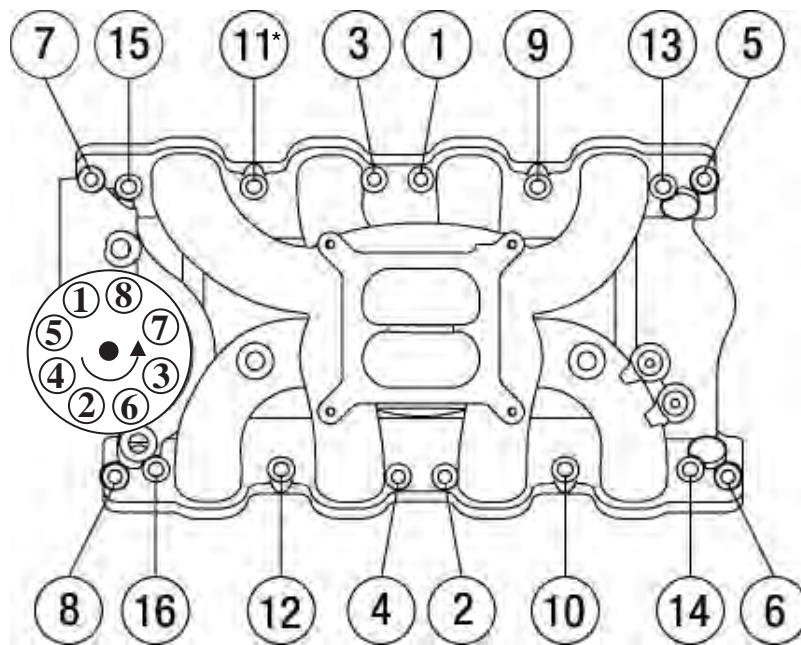

Figure 1 - 351C Ford Torque Sequence
- **MOUNTING HARDWARE:** These manifolds require a total of sixteen (16) intake manifold bolts to be properly secured. You will need eight (8) bolts that are 3/8"-16 and 1-3/4" long, and eight (8) bolts that are 5/16"-16 and 2" long. All sixteen (16) bolts will require chamfered hardened steel washers between the manifold and the head of the bolt. The longer bolts will thread through the vertical bosses, while the shorter bolts will mount perpendicular to the flange. See **Figure 1** for the proper torque sequence. **NOTE:** Manifold #7129 requires a shorter 3/8" bolt to clear the front passenger side runner. A 1-1/2" bolt is supplied with our #8529 manifold bolt kit. This bolt should be discarded if installing a #7183 manifold.
5. Install the intake manifold and hold-down bolts. The eight (8) 5/16" bolts will be installed in the vertical bosses (1-8 of the torque sequence) and should only be torqued to 10 ft/lbs at this time. The eight (8) 3/8" bolts will now be installed in the flange holes (9-16 of the torque sequence) and tightened to 15 ft/lbs. Now tighten the vertical 5/16" bolts to 20 ft/lbs in sequence, and then the 3/8" flange bolts to 30 ft/lbs, once again following the torque sequence shown in Figure 1.